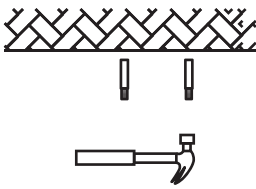

Figure 5
4. Use a hammer to install the expansion screws into the drilled holes. (See Figure 5)